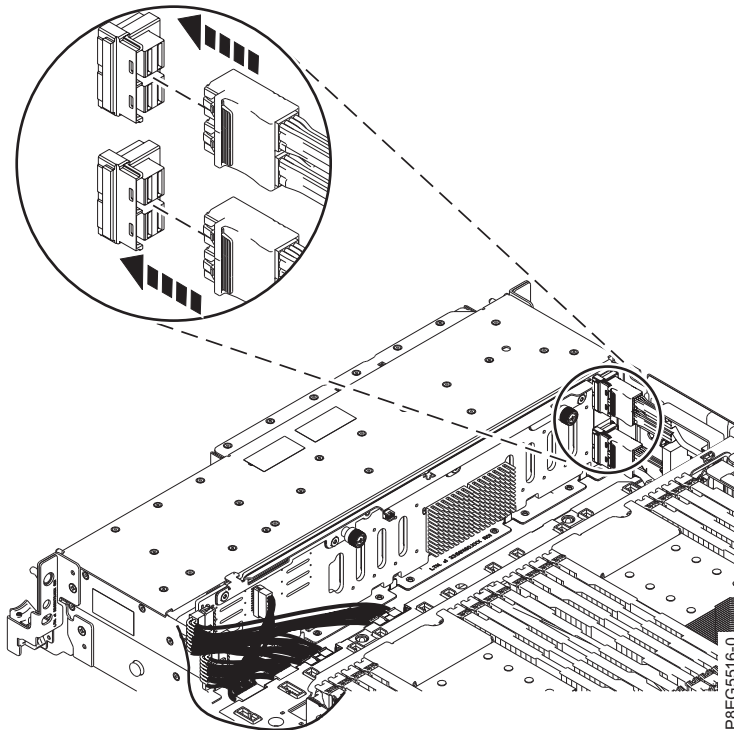

Figure 146. Reconnecting the front SAS cables
37. Reconnect the front SAS cable to the disk drive backplane as shown in Figure 146. Push the connector in until the connector latch clicks.